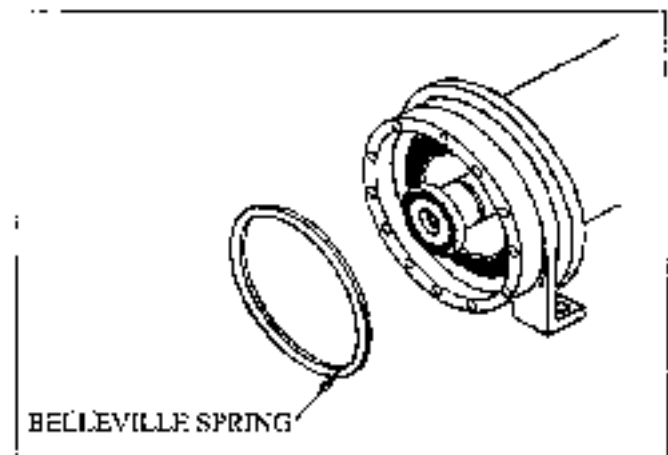

Figure 5
- (5) Remove the belleville spring. See Figure 5.